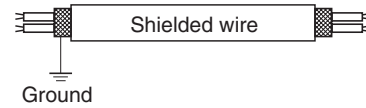

Fig. 1-240
- In case of using shielded wires for inter-unit control wiring, ground the shield on one side. (Fig. 1-240) Otherwise misoperation because of electrical noise may occur.